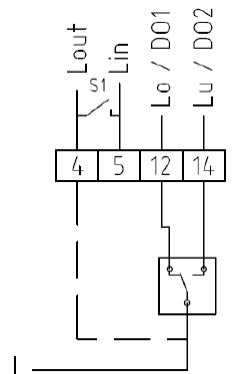

Fig. 21: Wiring diagram 3-point-signal
3. Wire as shown in Fig. 21 (the positioner must remain connected to the power supply throughout).